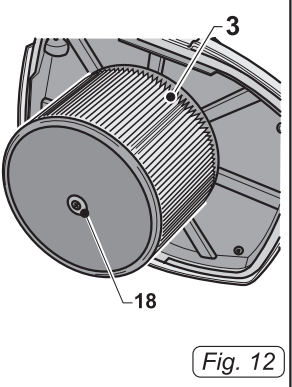

Fig. 12
- Unscrew the central screw (18 Fig.12) and remove the cartridge filter (3 Fig.12).